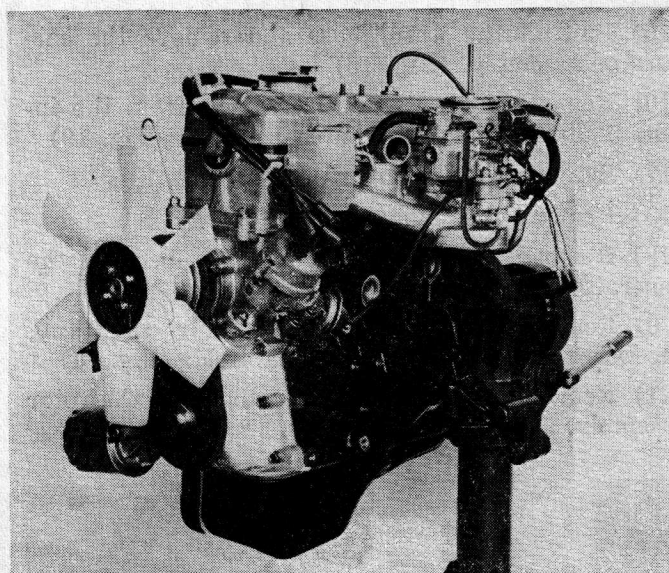
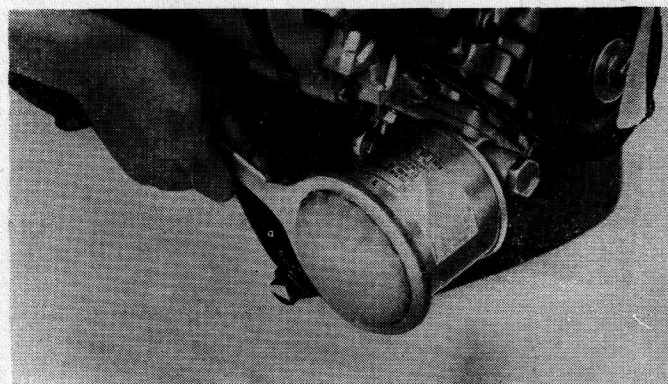

Fig. 14 Installing the Engine Assembly on the Engine Service Desk
Fig. 15 Removing the Oil Filter
- (7) Remove the rear plate.
- (8) Utilizing four bolt holes in the rear end of the cylinder block, attaching the engine assembly on the engine service desk. (Fig. 14)
- (9) Remove the oil level gage.
- (10) Remove the oil filter. (Fig. 15)
- NOTE:** Where it is hard to remove the oil filter by hand, use a tool as shown in Fig. 15.
- (11) Remove the fan, fan spacer and fan pulley.
- (12) Remove the fuel pump protector and fuel pipe. Then remove the fuel pump.
- (13) Pull off the spark plug cables and vacuum pipe and remove the distributor.
- (14) Remove the generator together with the fan belt.